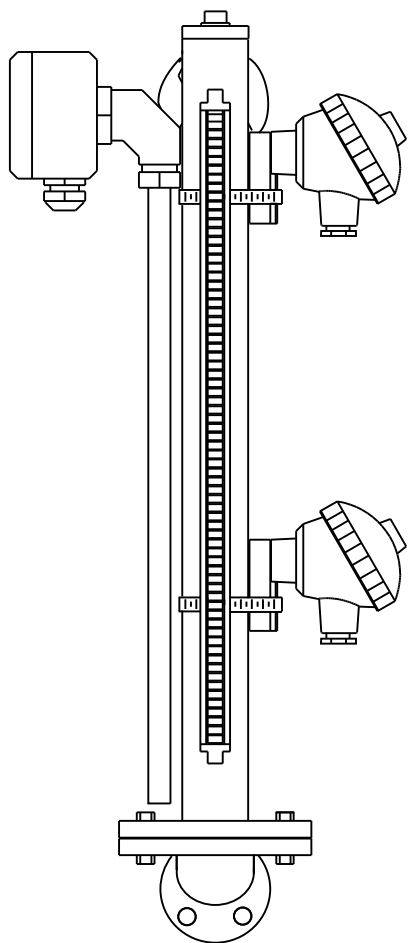
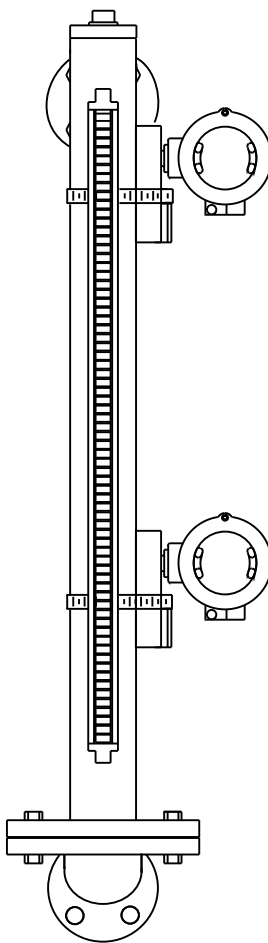
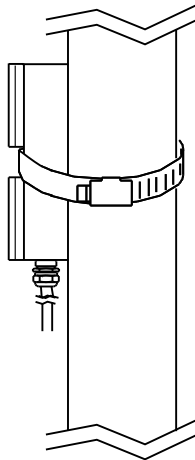
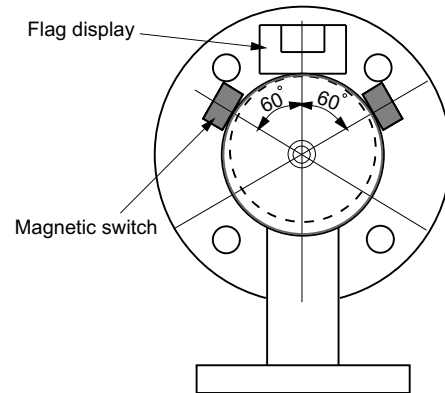

fig. 1
fig. 2
fig. 1A
fig. 2A
6. The magnetic switch (BPB-12 & BPB-13) is to be placed on a chamber, then fasten the magnetic switch to the chamber with a hose clamp. (see fig.1A and page 19 - fig.1, fig.2) positioning orientation of magnetic switches as fig.2A.